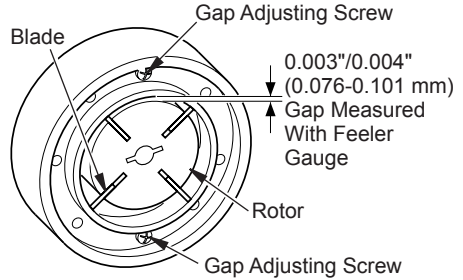

Figure 32 - Gap Adjusting Screw Locations
8. Check gap on rotor. Adjust to 0.076/0.101 mm (0.003"/0.004") if needed (see Figure 32, page 20).